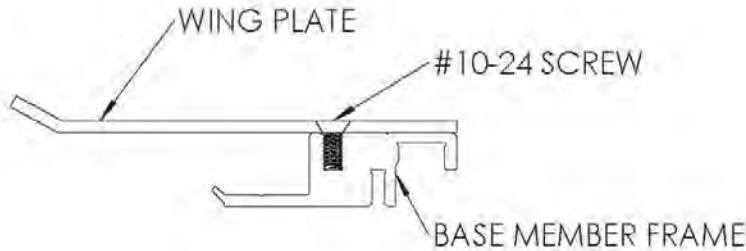

FIGURE 1
1. Remove the factory installed #10-24 screw that attaches the wing plate to the base member frame and retain for reinstallation later. *Note: In the 2", 4" and 6" sizes this step is not necessary as the wing plate and frame are one piece.* **See Figure 1**